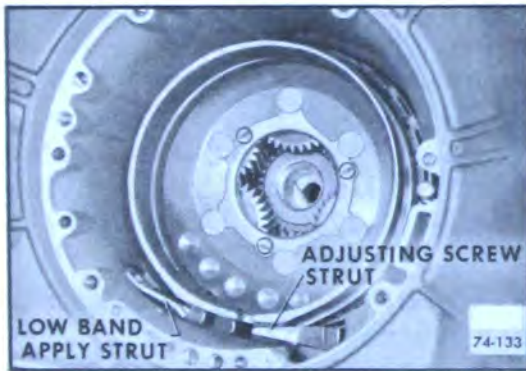

Figure 74-307
3. Install low band apply strut and band adjusting screw strut. After both struts have been installed, tighten low band adjusting screw enough to prevent struts from falling out. See Figure 74-307.